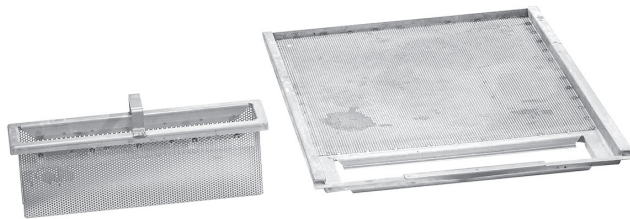

Fig. 1
- All strainer pans and scrap baskets must be properly installed in each section (Fig. 1).